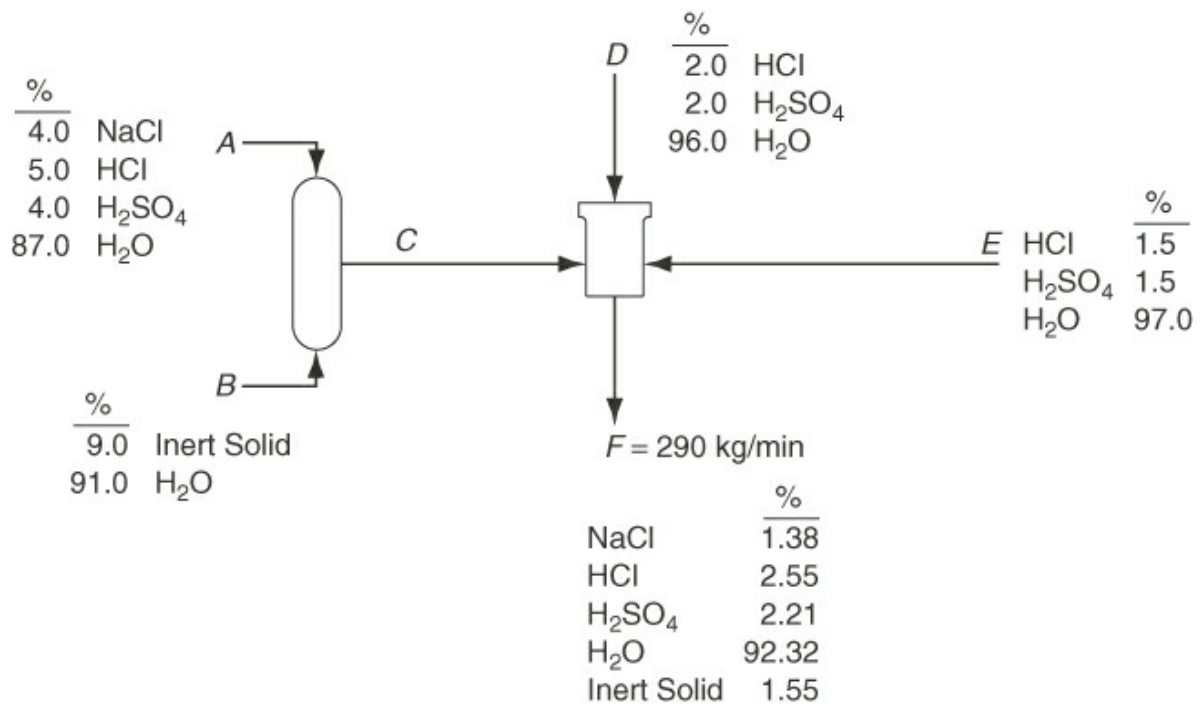

Figure P5.2.6
*****5.2.6** Several streams are mixed as shown in Figure P5.2.6. Calculate the flows of each stream in kilograms per second.